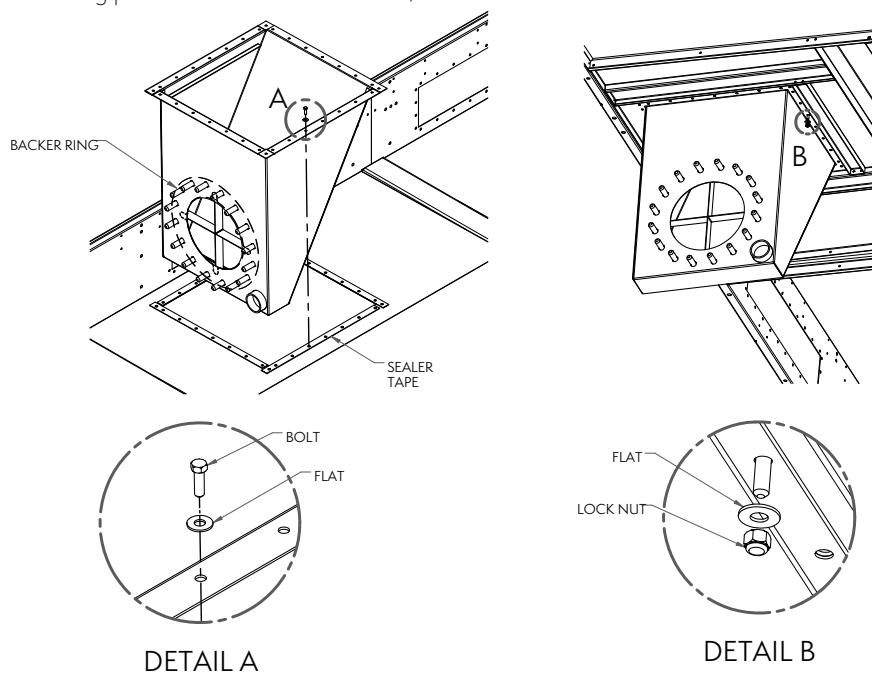

Figure 4 – Side Outlet Depressed Sump Box Installation
1. Locate square opening in the deepest part of the tower's basin. Clean mating surface, and apply sealer tape over the bolt holes surrounding the opening, as shown in **Figure 4**.